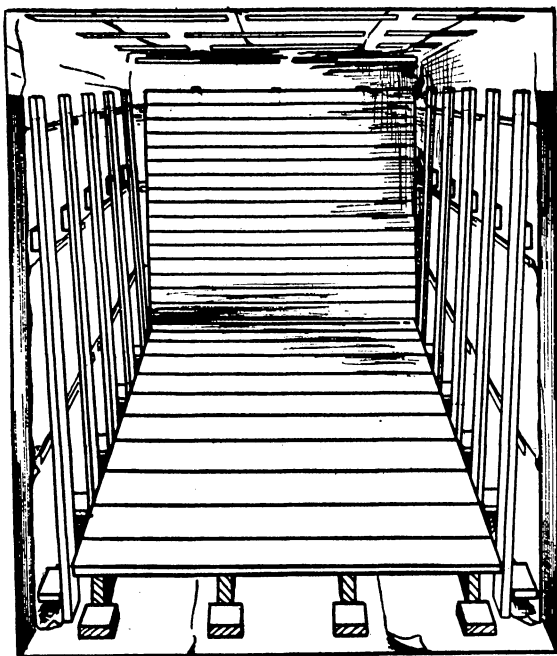

FIG. 9.—First layer of false floor boards.
10. Nail 8-foot lengths of the 1-inch boards to the false floor stringers. (Fig. 9.) These boards should form a solid, tight floor from the false end wall to the end of the stringers.